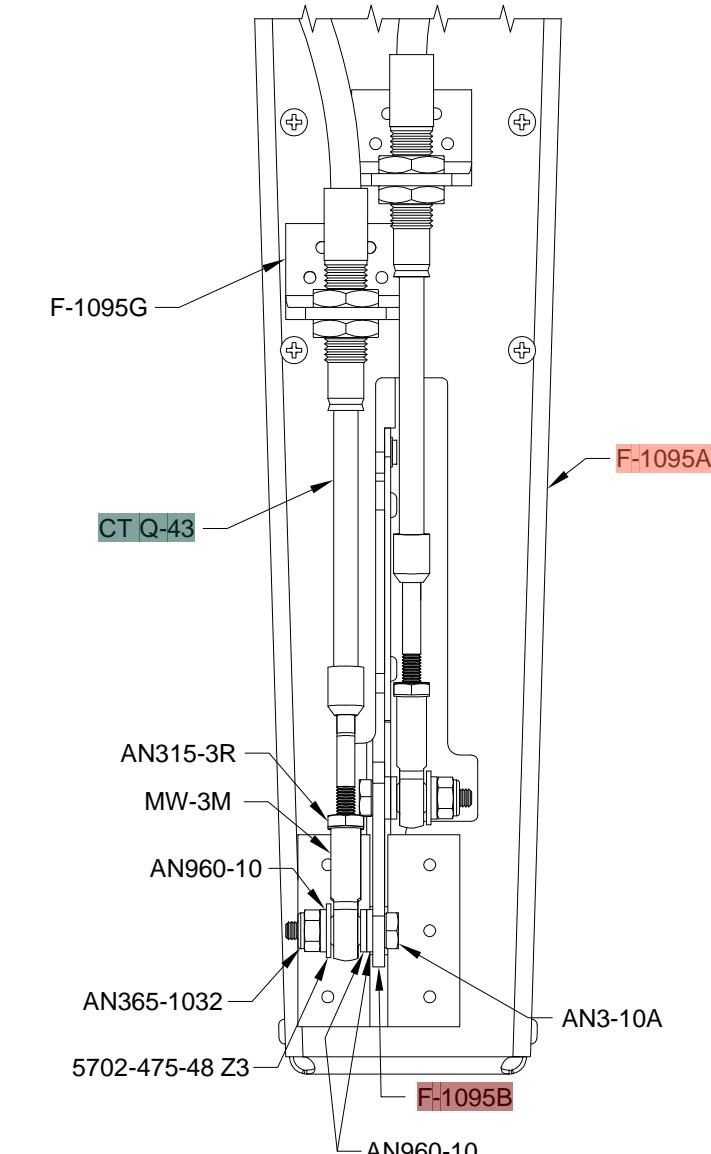

FIGURE 5:
Step 5: Install the two CT Q-43 Elevator Trim Cables through the F-1095G Trim Cable Anchor Brackets as shown in Figure 5.
Step 6: Study Figure 5 until you understand the attachment of the threaded ends of the two CT Q-43 Elevator Trim Cables to the F-1095B Trim Bellcrank. Pay particular attention to the orientation of the bolts and the placement of the various washers.
Attach the threaded ends of the two CT Q-43 Elevator Trim Cables to the F-1095B Trim Bellcrank using the hardware called-out in Figure 5. Leave the trim cable jam nuts finger tight.